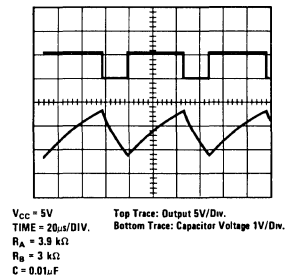

FIGURE 5. Astable Waveforms
*Figure 5* shows the waveforms generated in this mode of operation.